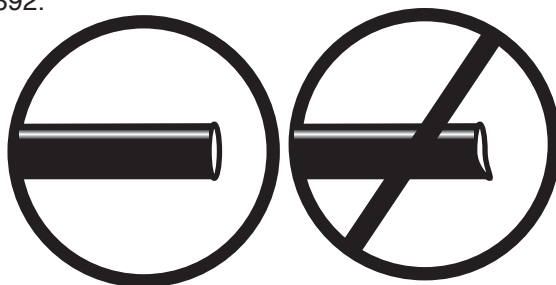

fig. 22
- a. Check the air line connection by deflating the spring and removing the line by pulling the collar against the fitting and pulling firmly on the air line. Trim 1" off the end of the air line. Be sure the cut is clean and square (see fig. 22). Reinsert the air line into the push-to-connect fitting.
2. If the preceding steps have not resolved the problem, call Air Lift customer service at (800) 248-0892.